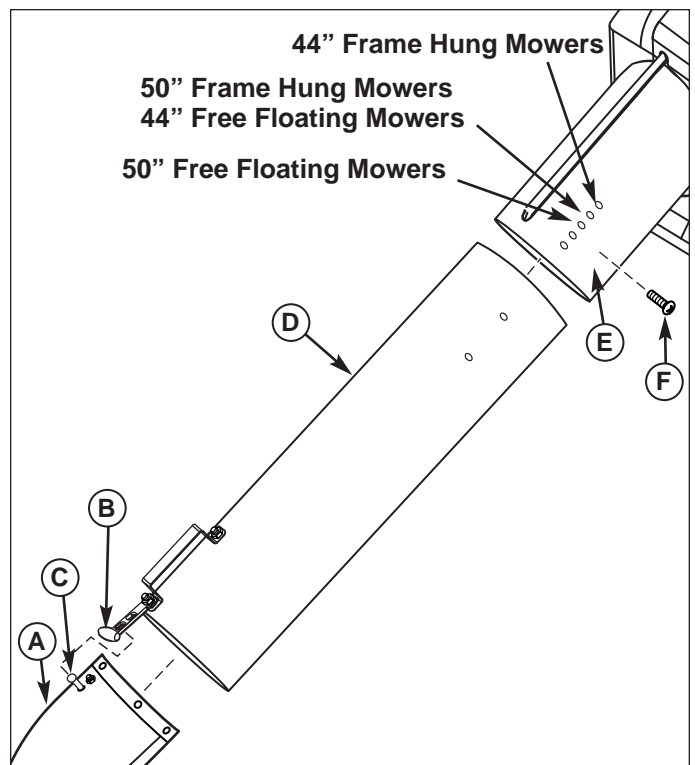

Figure 14. Install Middle Tube
2. See Figure 14 for correct hole location and secure the upper tube (E) to middle tube using screw (F).
2. Slide middle tube (D, Figure 14) into upper tube (E).
3. Slide middle tube (D) over boot (A). Pull strap (B) and place hole completely over pin (C).